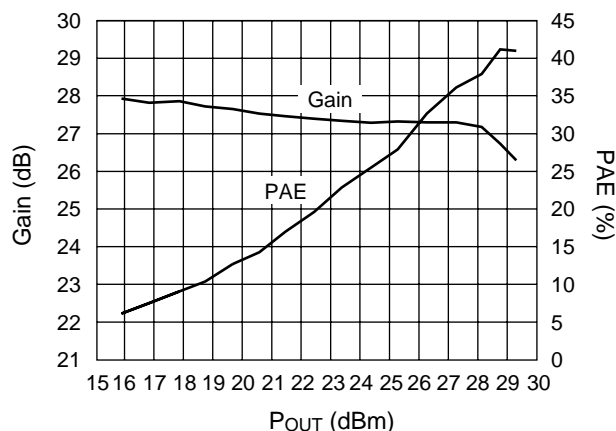

Figure 1. Gain, P.A.E. vs. Output Power
1. Performance in Figures 1, 2, 3, 4 and 5 is with  $V_{REF}$  set to 4.1 V through resistive voltage divider as shown in schematic.
2. Performance shown in Figures 1 and 2 is with a two-tone input signal at 1.88 GHz and 1.88001 GHz.